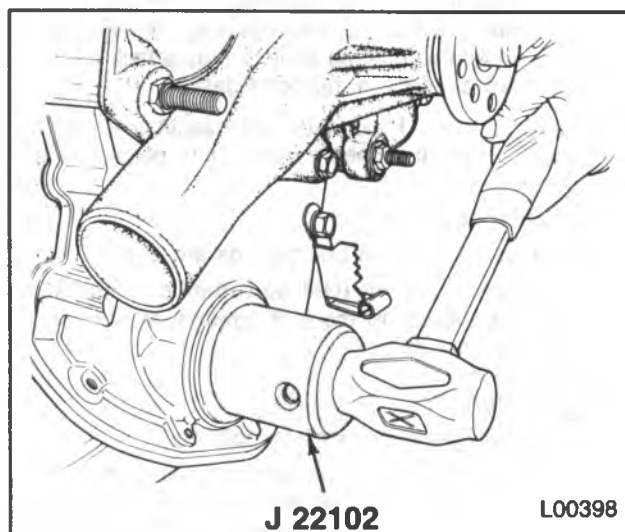

Figure 14 — Installing the Front Crankshaft Seal
Install or Connect (Figure 14)
1. New front crankshaft seal. Use J 22102 (figure 14). Lubricate the seal lips with engine oil.
Install or Connect (Figures 14, 15 and 16)
1. New front crankshaft seal to the front cover. Use J 22102 (figure 14).